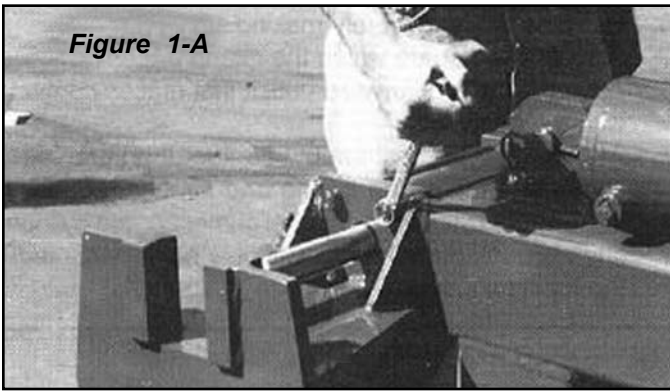

Figure 1-A
11. Loosen the four (4) 1/2" nuts (or bolts) attaching the cylinder to the swager box using a 3/4" socket or open end wrench. It is not necessary to completely remove the nuts or bolts. (See figure 1-A)
- Shim the swager cylinder as necessary by inserting shim stock between the cylinder end block and the swager box until proper alignment is achieved. (See figure 1-B)